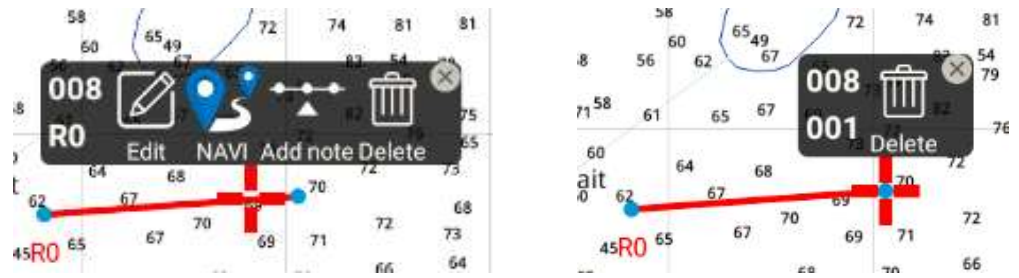

Figure 21 - Edit Route Window.
- (d) On the chart page, select the route to be edited, and you can also perform the operations of **Edit**, **NAVI**, **Add note**, and **Delete**, as shown in Figure 21.